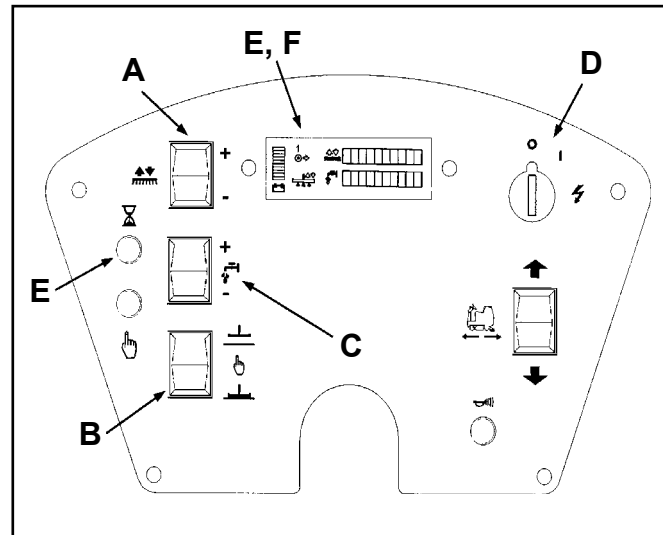

Figure 1
**On/Off Key Switch (See figure 1, Item D)**
**Brush Up/Down Switch (See figure 1, Item A)**
**Squeegee Up/Down Switch (See figure 1, Item B)**
**Hour Meter (See figure 1, Item E)**
**Battery Meter (See figure 1, Item F)**
**Solution Flow Control (See figure 1, Item C)**